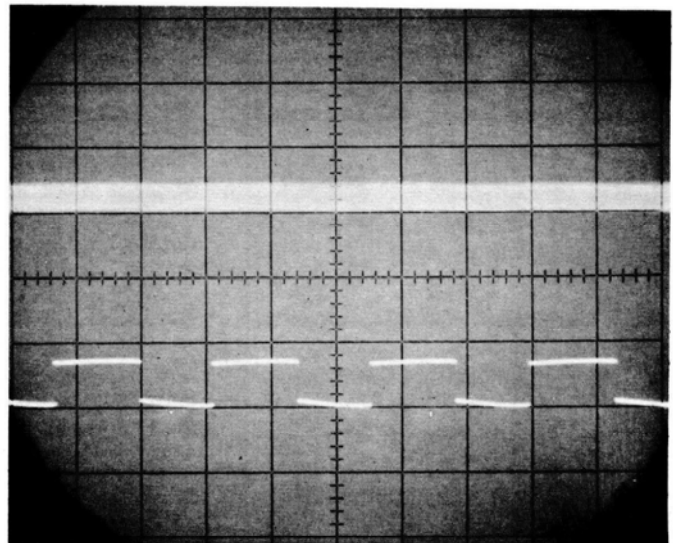

Figure 5-2. Trigger Adjustment Waveforms
- e. Rotate LEVEL until a waveform similar to the upper waveform in Figure 5-2 appears.
- f. Using LEVEL to maintain the presentation, adjust Trigger Sensitivity R122 for a waveform similar to the lower waveform shown in Figure 5-2. Continue rotating R122 clockwise until the waveform is just barely obtainable with adjustment of LEVEL.